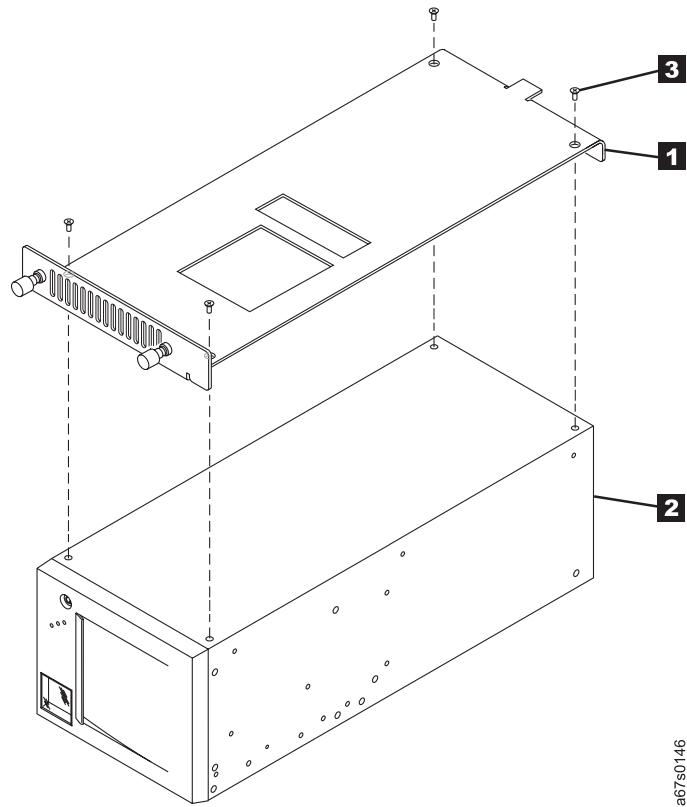

Figure 49. Installing the 3581 Tape Autoloader onto the sled. Both the autoloader and the sled are upside down.
9. Turn the sled (see **1** in Figure 49 on page 120) upside down and place it onto the 3581 Tape Autoloader **2**. Secure the sled to the autoloader with four flat-head screws **3**.